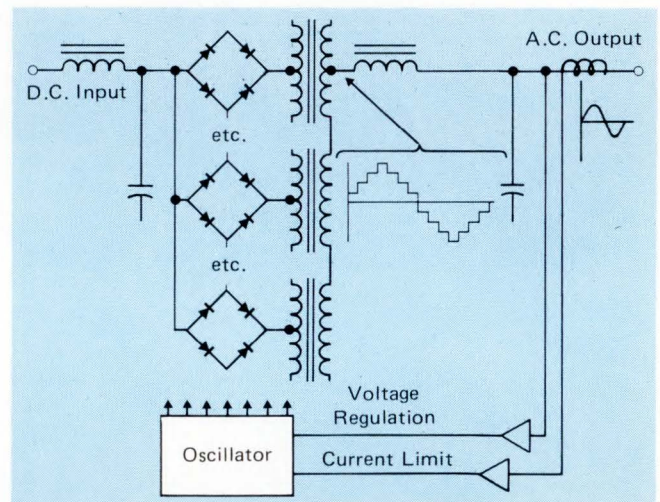

Fig 6 Step or synthesized waveform inverter.
**Synthesized or Stepped Waveform (Fig 6):** Employed primarily in very large three-phase inverters (over 100KVA), this approach employs multiple inverter switches, divided into two sets. Each set produces a 3-phase waveform with 12 or more steps achieved by summing square waves. The two sets are then phase-shifted in respect to one another to regulate the ultimate output voltage. If they are 180° out of phase, the output is zero as they cancel out. When they are exactly in place, the output is at maximum. Because the multiple step waveform inherently eliminates most low frequency harmonics, this approach needs only a simple low pass output filter to achieve a very low distortion output sine wave. Again, transient response and efficiency